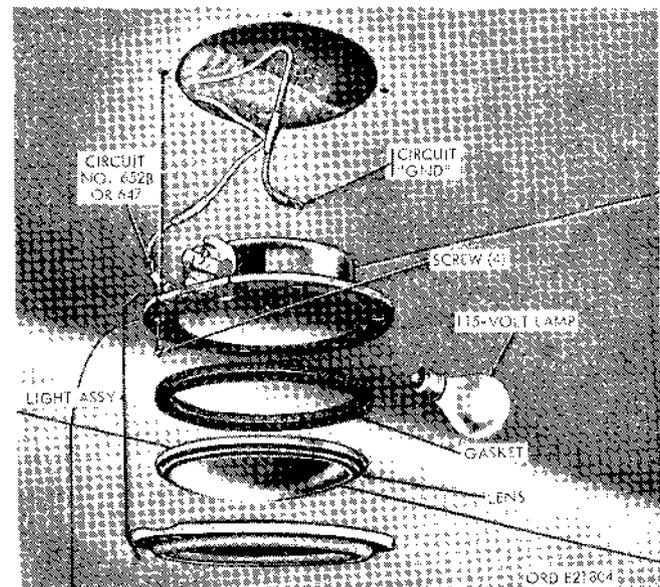

Figure 2-243. Removing emergency and blackout light fixture.
b. Light fixtures (Fig. 2-243).